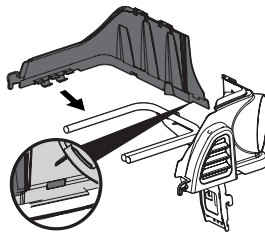

Figure 10
4. Snap the top cover support on to the bagger support rail at a slight angle. Rotate the assembly down and into the chute support assembly, making sure that the tab (shown in inset of Figure 10) is locked into place.